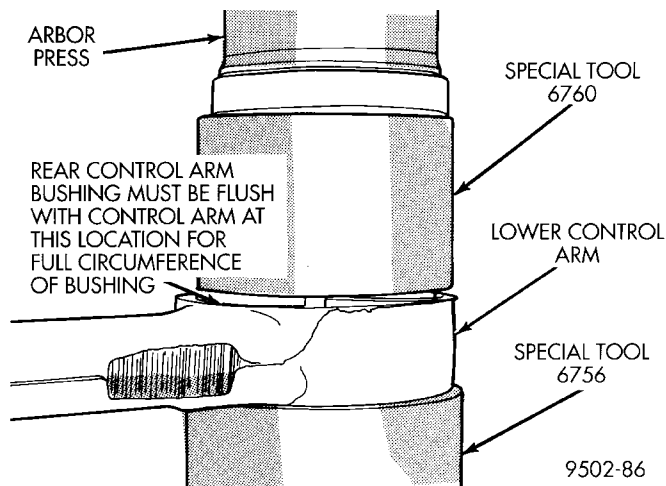

Fig. 80 Correctly Installed Rear Bushing
(3) Press rear bushing into lower control arm, until flange on bushing is flush with machined surface of lower control arm (Fig. 80).
(4) Install the lower control arm assembly back on the vehicle. See Lower Control Arm in the Removal And Installation Section in this group of the service manual for the required installation procedure.